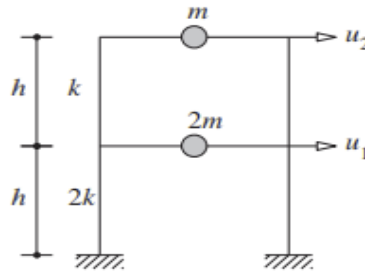

Fig 3.1
3. Determine the natural frequencies and modes of the system shown in Fig. 3.1